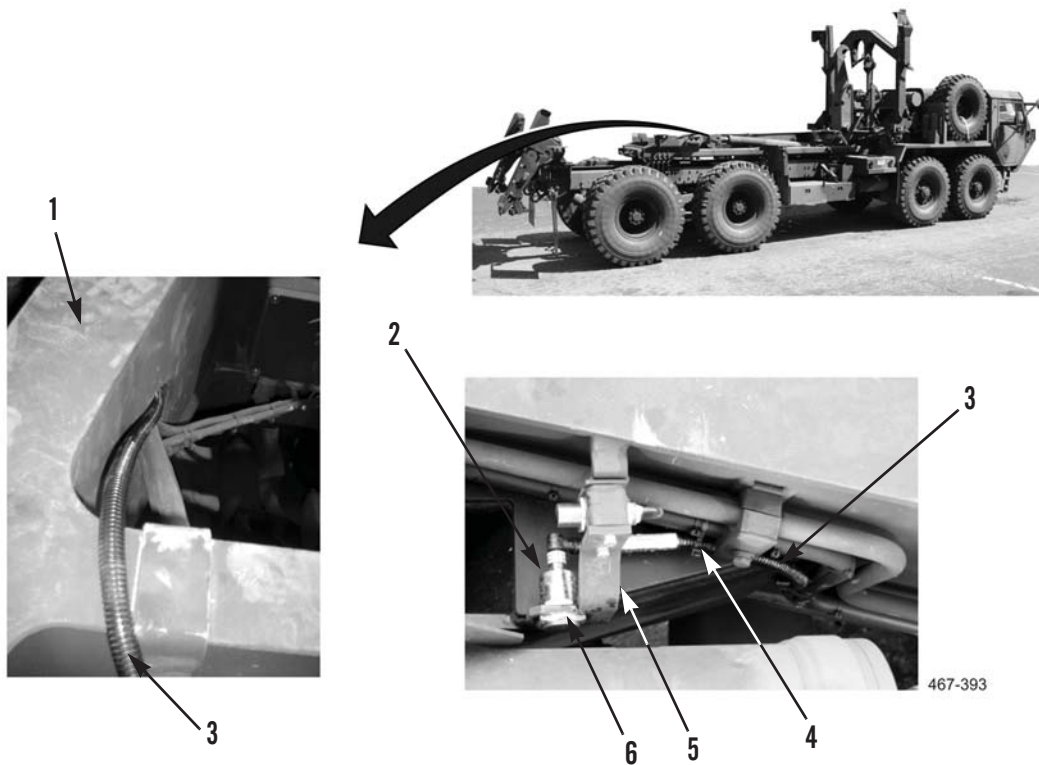

Figure 50. Hook Arm Sensor Installation.
- Route hook arm wiring harness (Figure 50, Item 3) through opening in hook arm (Figure 50, Item 1) to hook arm sensor bracket (Figure 50, Item 5).
- Remove nut (Figure 50, Item 6) from hook arm sensor (Figure 50, Item 2) and install hook arm sensor and nut in hook arm sensor bracket (Figure 50, Item 5), so that face of sensor is flush with nut.
- Install new tiedown straps (Figure 50, Item 4) as required.